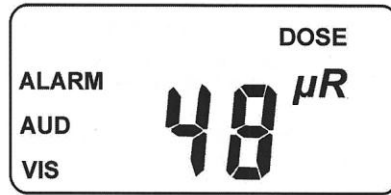

Figure 3 – The Dose Display
- Press the DOSE key to switch to Dose Mode. The Dose Mode should appear, with the word *DOSE* shown at the top right of the screen (Figure 3)